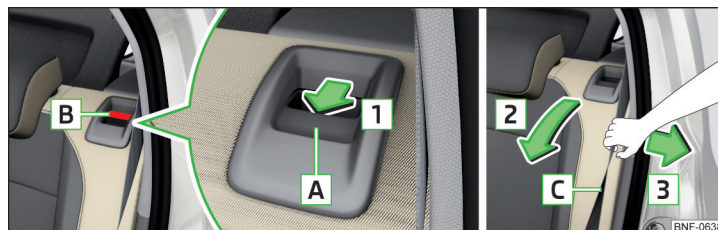

Fig. 54 **Fold down seat backrest / pull on belt for side trim panel**
- Press the release handle **A** in the direction of arrow **1** and tilt » Fig. 54 the seat backrest in the direction of arrow **2**.
- Pull the seat belt **C** for the side panel in the direction of arrow **3** » Fig. 54.